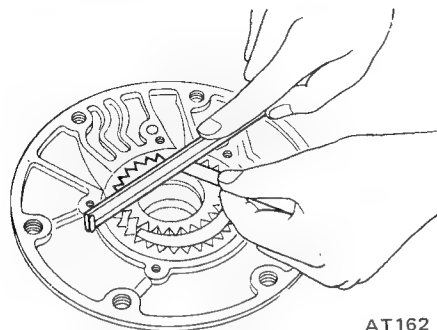

Fig. AT-96 Measuring clearance
- Clearance between inner (or outer) gear and pump cover. See Figure AT-96.